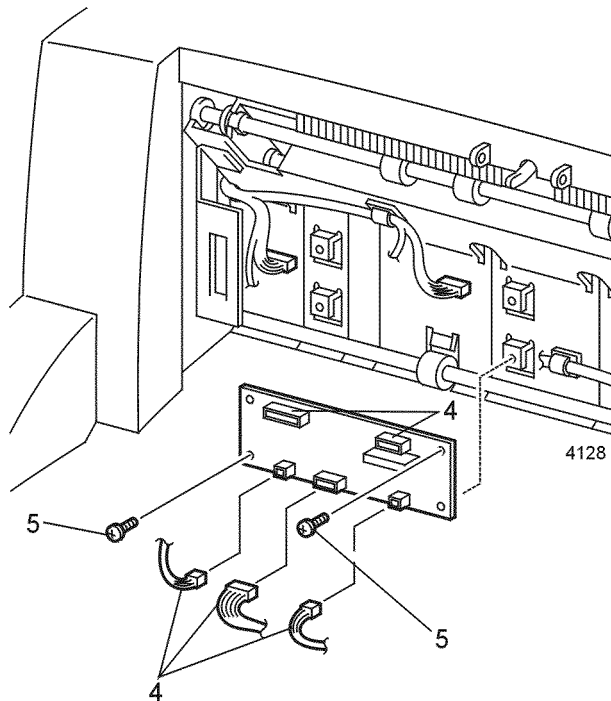

Figure 1 OCT PWB
4. Disconnect P/J514, P/J515, P/J517, P/J520, and P/J524 from the OCT PWB (Figure 1).
5. Remove the two screws that secure the OCT PWB (Figure 1). Remove the PWB.